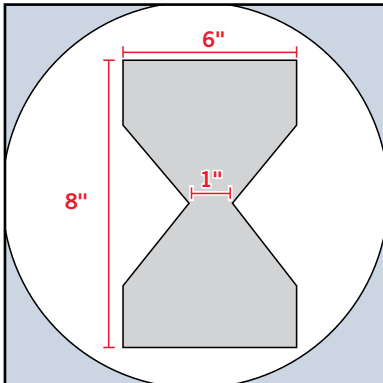
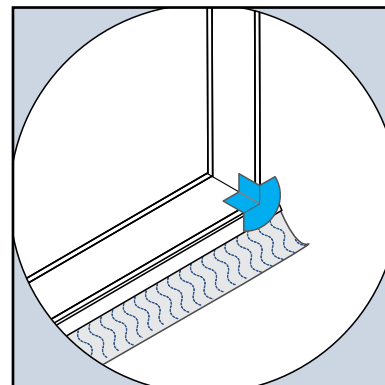

Fig. 29
Fig. 32
- D. To properly flash the sill, cut and install corner patch flashing (Fig 29, 30, 31) or use Typar Flex Flashings (Fig 32, 33).